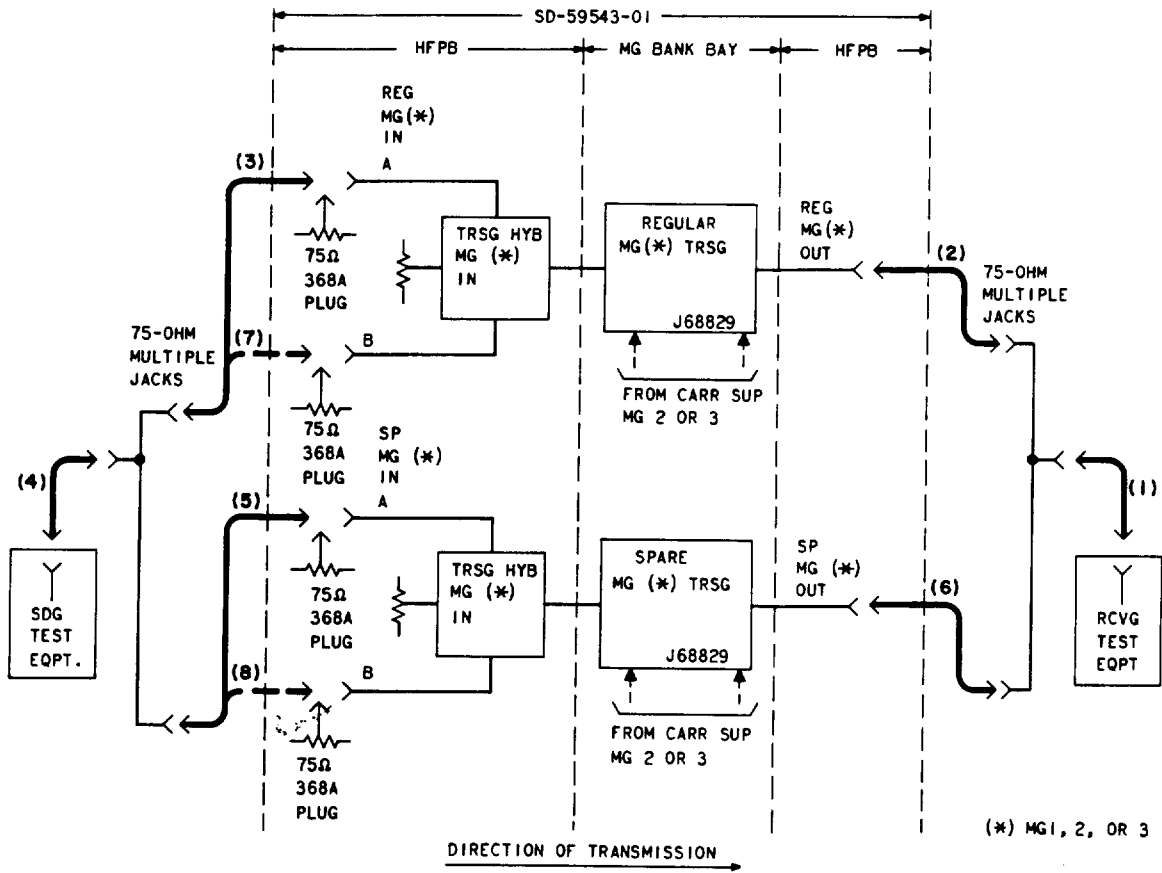

Fig. 1—Transmitting Mastergroup Bank Circuit—Turnover Test
4 Make patches (1), (2), (3), and (4) in Fig. 1.
7 Make patches (5) and (6) in Fig. 1.
9	Remove patches (3), (5), and (6) in Fig. 1.
12	Make patch (7) in Fig. 1.
14	Make patches (6) and (8) in Fig. 1.